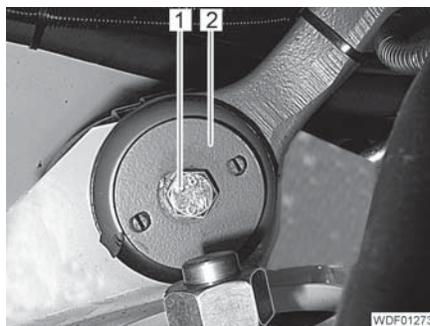

Fig. 59 Engine mount
- Unscrew the screw (Fig. 59,1) on the bearing to be replaced.
- Unscrew 1 screw (Fig. 59,1) on each of the other bearings.
- Screw in the screw (Fig. 59,1) but do not tighten it yet.
- Tighten 1 screw (Fig. 59,1) on each engine mount.